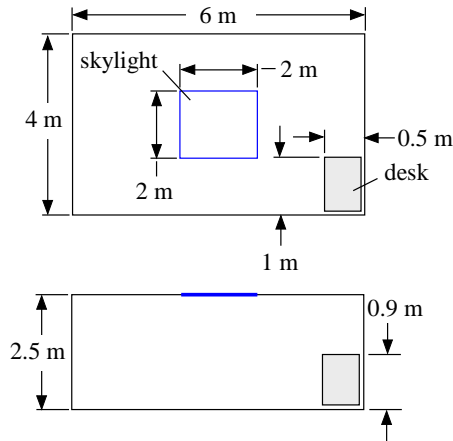

**Figure P10.3-2:** Determine the view factor  $F_{1,2}$ .
**10.3-2 (10-5 in text)** Find the view factor  $F_{1,2}$  for the geometry shown in Figure P10.3.2 in the following two ways and compare the results.